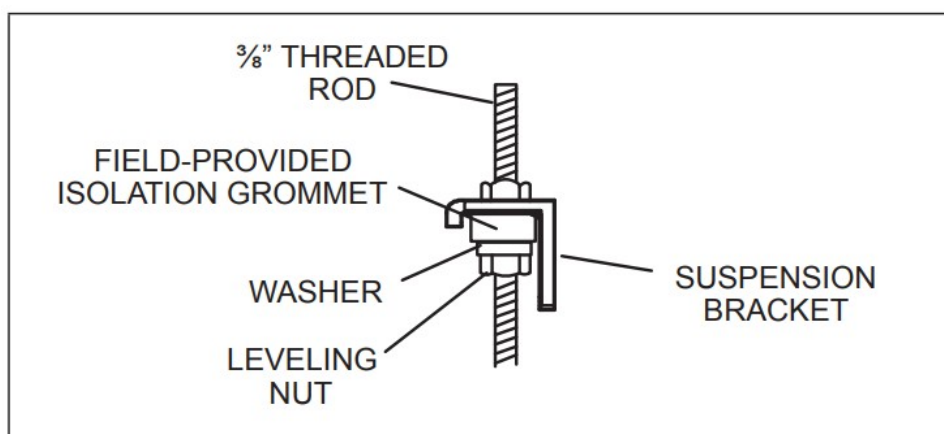

Figure 16. Isolation Grommet
5. If necessary, install a field-provided isolation grommet as shown in "Figure 16. Isolation Grommet" to prevent transmission of vibration from unit to structural ceiling.
7. The unit is factory-configured for the supply air to be delivered from the front and the return air filter at the rear of the unit. The return air filter location can be relocated in the field for bottom return air filter access, if more convenient. See "Figure 16. Isolation Grommet".